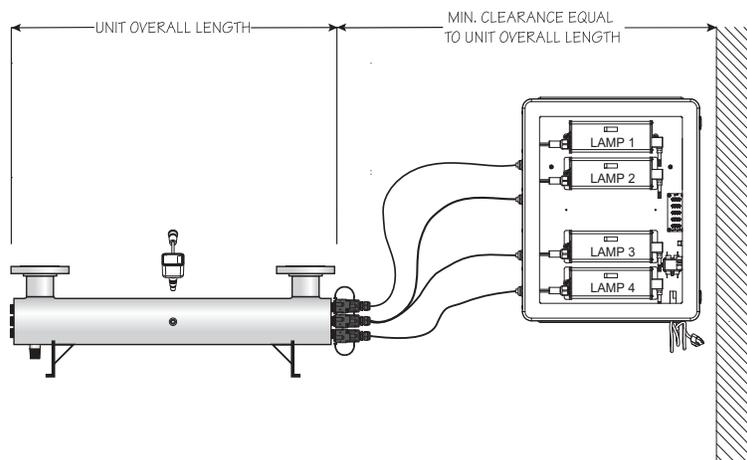

Figure 2 UV System
1. Figure 2 shows the installation of a typical UV system and the related components that may be used for the installation. The use of a by-pass assembly is recommended in case the system requires “off-line” maintenance. In this case, note the system requires supplementary disinfectant for the distribution system if any water is used during by-pass condition. In addition, during by-pass, the water will NOT be disinfected and a “DO NOT CONSUME THE WATER” tag should be physically installed on the by-pass assembly until such time as the system is cleaned and returned to service. For more information, refer Section 3.1. If the water is to be consumed while the system is off-line, the water must be boiled for two minutes prior to consumption.
2. Select a suitable location for the UV system and its related components. As it is recommended to install a GFCI, make sure that this is taken into consideration prior to any installation. The system must be installed horizontally, refer to Figure 2. When selecting a mounting location, you must leave enough space to allow for the removal of the UV lamps and/or quartz sleeves (typically leave a space equal to the size of the reactor chamber itself).